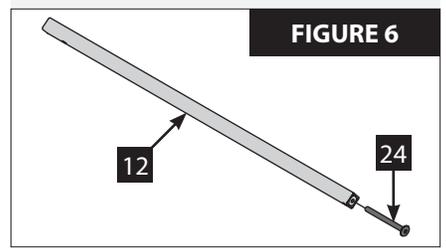

FIGURE 6
- Screw the M6 x 70mm Allen bolt (24) into the opposite end of the front seat tensioner (12) until snug. **SEE FIGURE 6.**